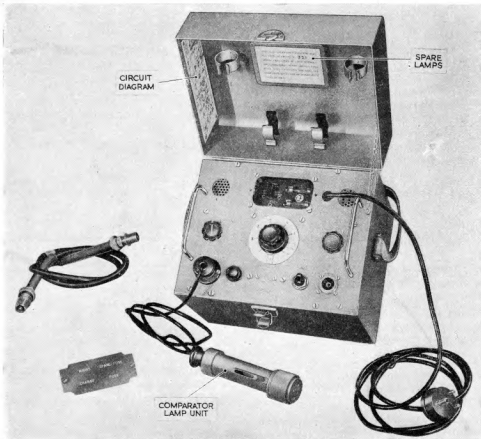

Fig. 16. Test set Type 102
**50.** The mains tapping link, access to which is gained by removing the small plate on the front panel of the test set, should be set so that socket C is linked to the 220/240 volts socket. Fig. 16 shows the position of the link and of the fuses, the upper of which is spare. When this check has been made proceed as follows:—
- (6) Connect the cable shown by the side of the instrument in fig. 16 between the
#### Test set Type 102 (fig. 16)